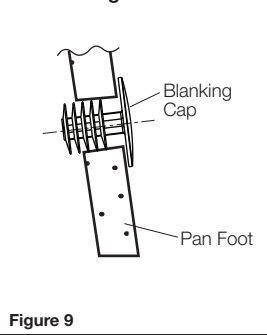

Figure 9
- 3- Locate and fix blanking caps (supplied) into pan fixing holes, as detailed in **Fig. 9**.